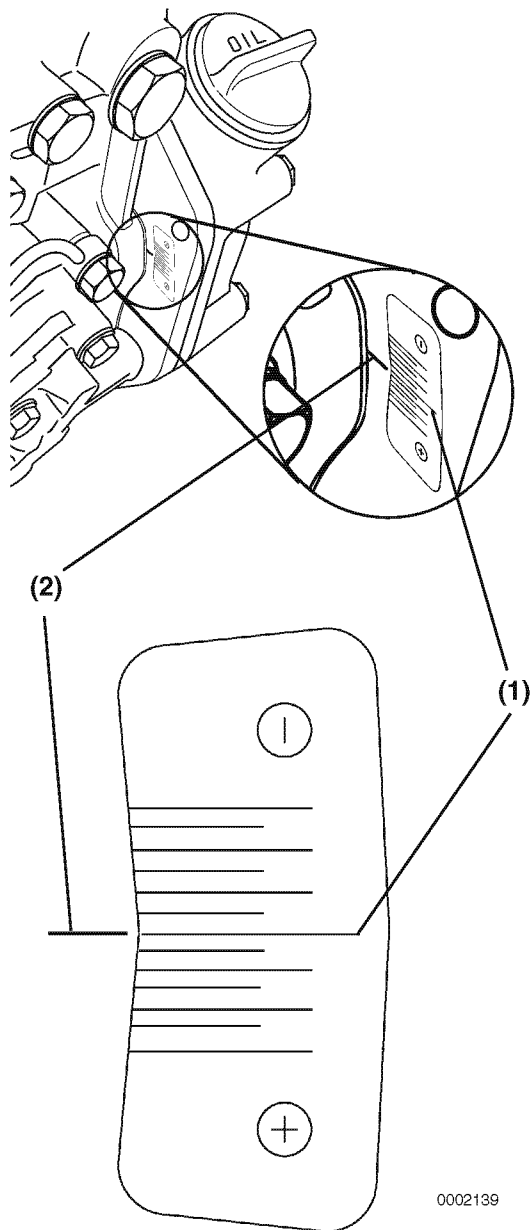

Figure 7-28
- Reinstall the timing grid sticker, provided with the new fuel injection pump, onto the back of the gear case / front plate (Figure 7-28). Align the “standard mark” (Figure 7-28, (1)) with the reference mark (Figure 7-28, (2)) made on the gear case during disassembly.